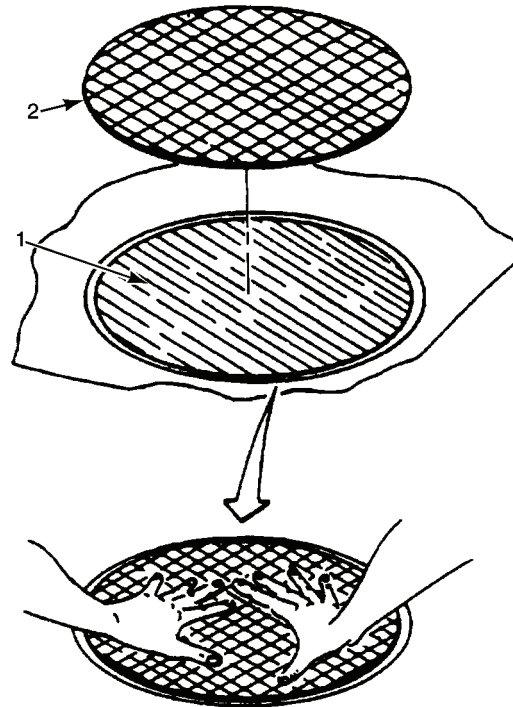

Figure 2-34. Centering Wet Patch.
(m) Prepare a new batch of adhesive (item 1, table 2-11) and carefully apply a uniform (liberal/heavy) coat of repair adhesive (1, figure 2-34) over previous coats of barrier adhesive. Smooth surface with gloved fingers wet with acetone (item 3, table 2-11) and remove any excess adhesive from unbuffed area with a clean cloth (item 16, table 2-11) and acetone (item 3, table 2-11). Wear gloves (item 4, table 2-11).